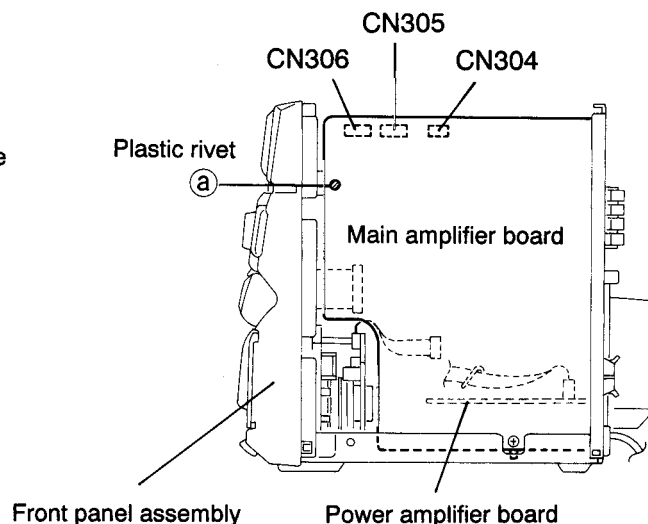

Fig.5-4
5. Remove the plastic rivet ① fastening the main amplifier board and front panel assembly to the left side panel of the main unit. (See Fig. 5-4)